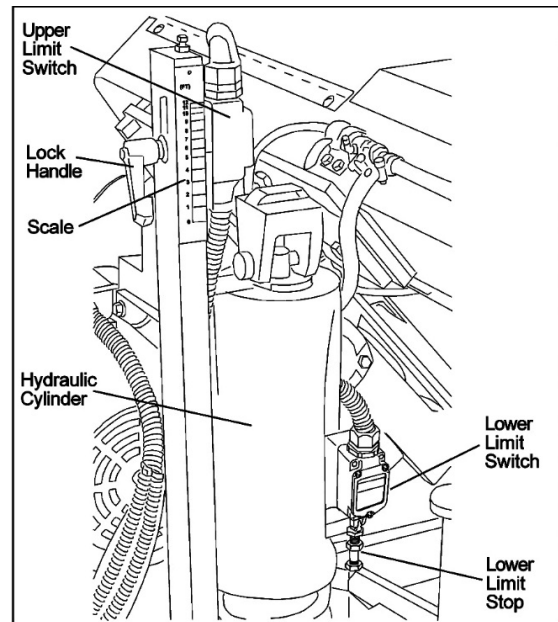

Figure 15: limit switches
1. To raise saw head, press the Saw Head Up pushbutton. The head will rise until upper limit switch (Figure 15) trips.
3. When saw head is being lowered to cut a workpiece, the saw blade drive motor must be started before lowering blade against workpiece. Set coolant pump selector to the ON (I) position if coolant is required by the material being cut.